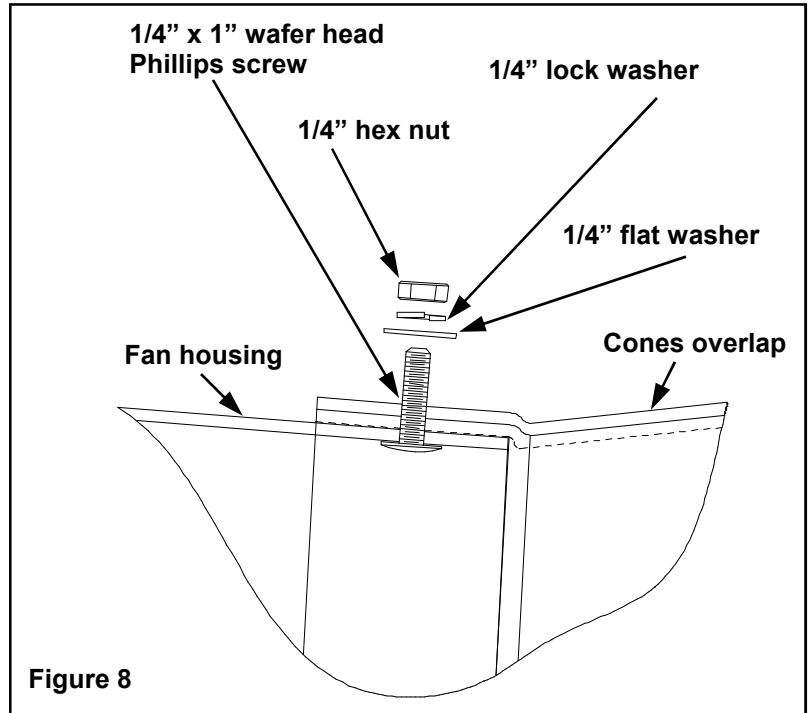

Figure 8
cone quarter to the fan housing with a flat washer, lock washer and hex nut (on each screw). See Figure 8. Fasten nut only finger tight at this time. Now, facing the fan outlet, in a counter clockwise direction, place another cone quarter to the left of the first one. This cone quarter will slip under the first so they overlap. Repeat the above hardware installation, and repeat for the remaining two cone quarters. When the fourth cone quarter is to be joined to the fan, you will need to remove the first screw so the two cone quarters will overlap. Finally, fasten the cone quarters where they overlap, two places per overlap, with one (1) 1/4" x 1" hex head bolt, two (2) flat washers, one (1) lock washer and hex nut. See Figure 9. Now, you can snug the cone quarters together and tighten all the hardware.